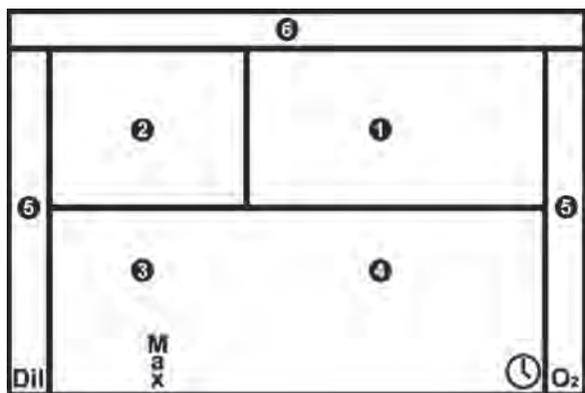

Figure 3-2. LCD display layout.
The next most important region is the upper-left part of the screen, where the current PO₂ value is displayed (2 in figure 3-2). The lower half of the screen includes basic information about depth (on the left side, 3), and time (on the right side, 4). The left and right edges of the screen (5) include bar graphs that represent the current capacity of the diluent (left side) and oxygen (right side) cylinders, as a percentage of total cylinder capacity. Finally, the top edge of the screen (6) includes a bar graph that represents the current ascent rate of the diver. When the Poseidon SE7EN electronics are started (via the wet switch, or when the battery is inserted into the unit), the LCD screen momentarily shows all elements of the display, as illustrated below. Each of these elements is described in detail below.